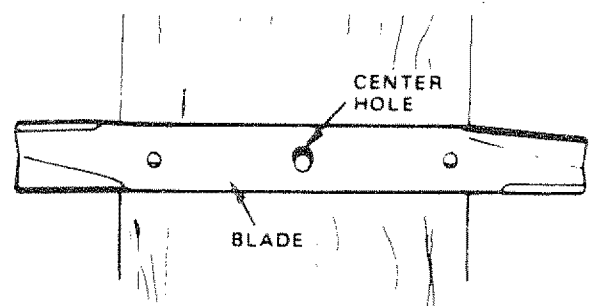

FIGURE 23
- To check blade balance, drive a nail into a beam or wall. Leave about one inch of the straight nail exposed. Place center hole of clean blade over the head of the nail (Fig. 23). NOTE: CENTER HOLE OF BLADE ON NAIL. IF BLADE IS PROPERLY BALANCED, BLADE SHOULD REMAIN IN POSITION SHOWN IN FIG. 23. IF EITHER END OF THE BLADE MOVES DOWNWARD, BLADE IS NOT BALANCED. SHARPEN THE HEAVY END UNTIL BLADE IS BALANCED.